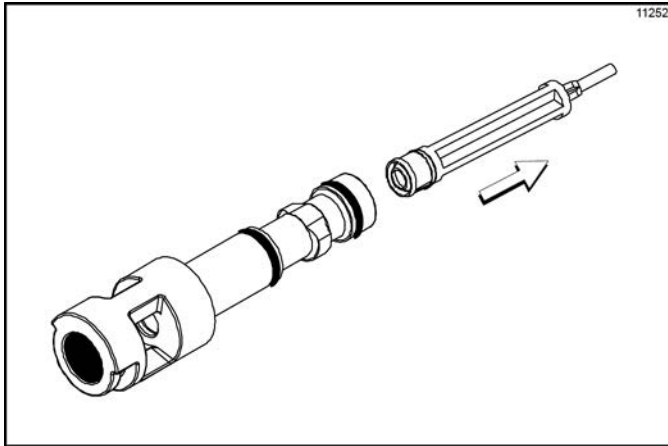

Figure 6-119
- Remove the freezer door O-ring, front bearing, retainer pins, and draw valve spinner assembly. Remove the driven spinner from the draw valve by grasping the draw valve and pulling the driven spinner out. Remove the spinner shaft seal. (See Figure 6-119.)